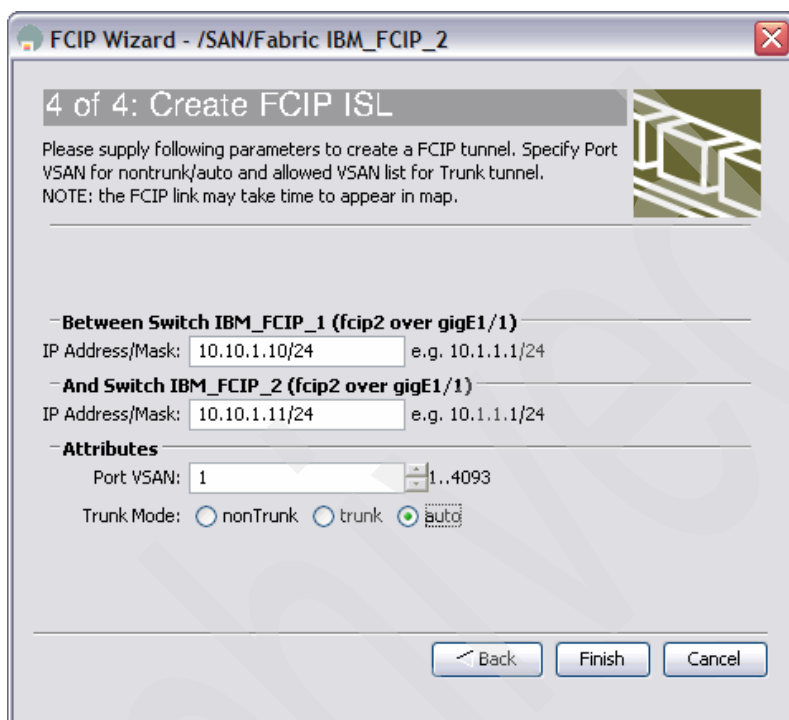

Figure 12-16 FM FCIP Wizard panel 4 of 4
- f. In the next panel (Figure 12-16 on page 347), we code the IP addresses of the GigE interfaces. We use a single subnet, but this is not a requirement. Addresses from different subnets can be used, combined with static routes defined on each switch indicating the correct path. We also select the default VSAN for this interface and configure the trunking behavior. In this case, we select **auto** for the trunk behavior. Table 12-4 explains trunk behavior based on individual switch trunk configurations.
When we create the PortChannel (discussed later in this chapter), it will be configured to **trunk**. After clicking **Finish** (Figure 12-16), the first FCIP link is created.